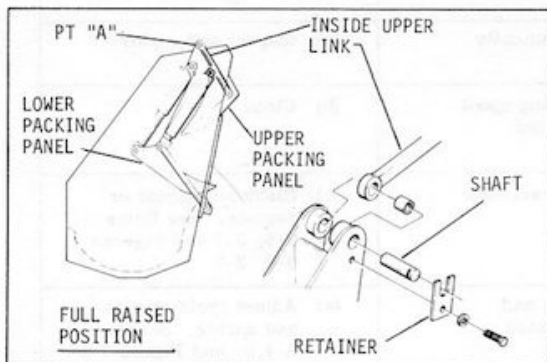

Figure 3-13. Retainer and Shaft Removal
- b. Raise packing mechanism to its fully raised position as shown in figure 3-13 and secure with chain fall.
- c. Remove retainers and shafts from the inside upper links (point "A", figure 3-13). Lower packing mechanism to bottom of hopper and remove chain fall.